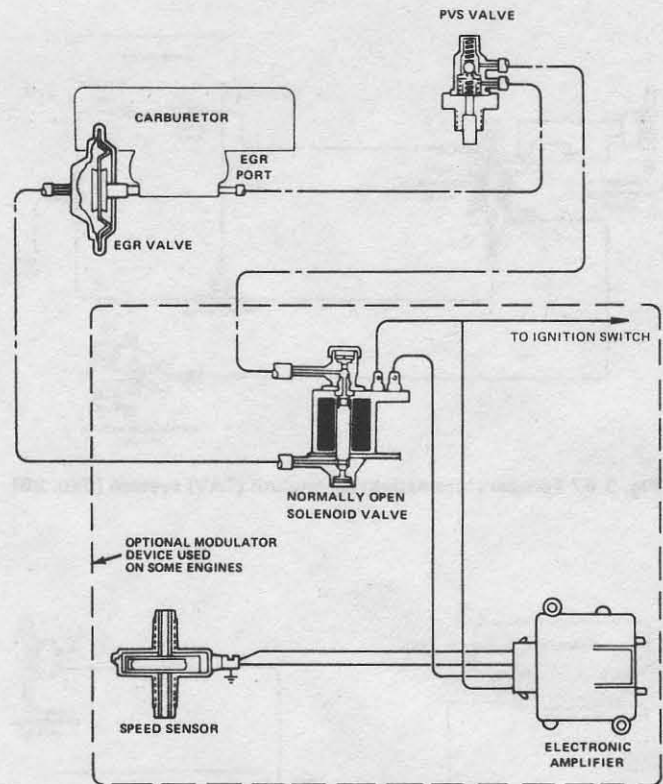

Fig. 3.65 Exhaust gas recirculation (EGR) system (Sec. 29)
- 10 The EGR valve is mounted on a spacer block between the carburetor and manifold. A venturi vacuum amplifier (VVA) is used to change the relatively weak vacuum signal in the carburetor throat to a strong signal for operation of the EGR valve (Fig. 3.65).